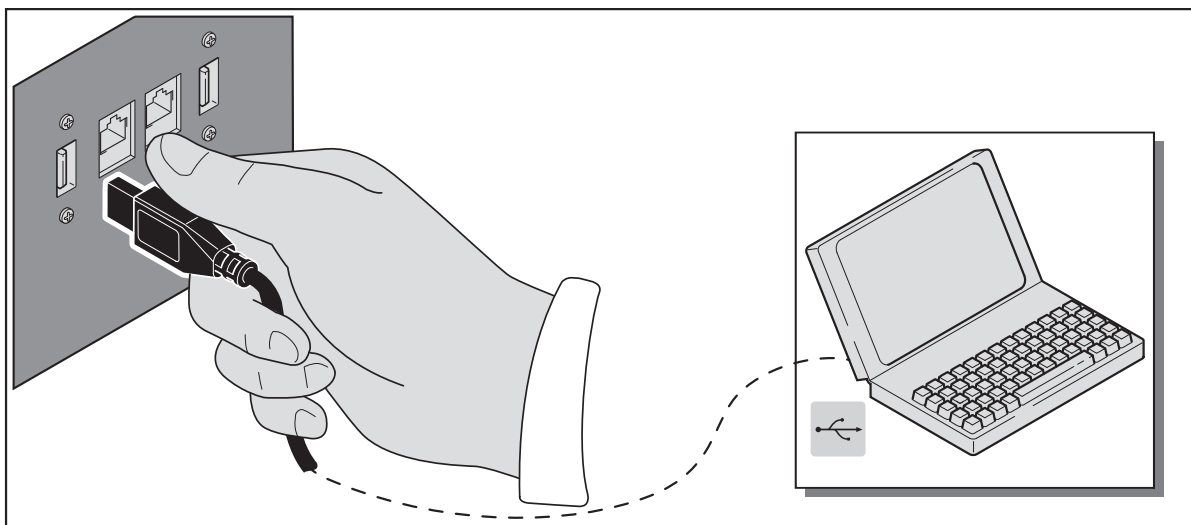

Figure 9-3
- Connect the USB interface cable to the dispenser USB port, marked with the symbol  (Figure 9-3).